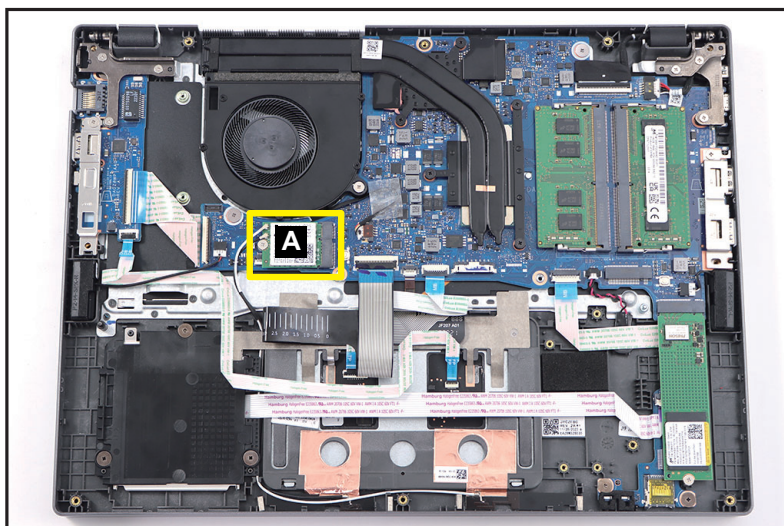

Figure 1-13. WLAN Module Location
1. Find the WLAN module (A) on the top assembly (Figure 1-13).